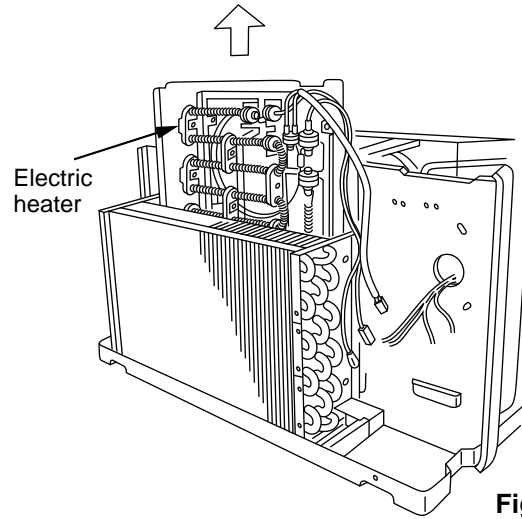

Fig. 9
(3) Lift the electrical heater up out of the unit. (Fig. 9)